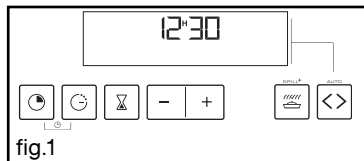

fig.1
– The analog programmer should display only the time (fig.1).
- Press the “” button (fig.1) until it reads 0.00.